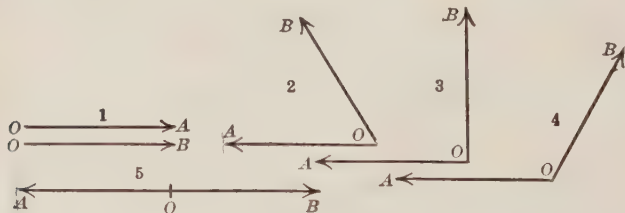

FIGURE 532.
10. In Figure 532,  $OA$  and  $OB$  represent forces of 50 lbs each. Determine the resultant of the two forces at the angles indicated:  $0^\circ$ ;  $60^\circ$ ;  $90^\circ$ ;  $120^\circ$ ;  $180^\circ$ .